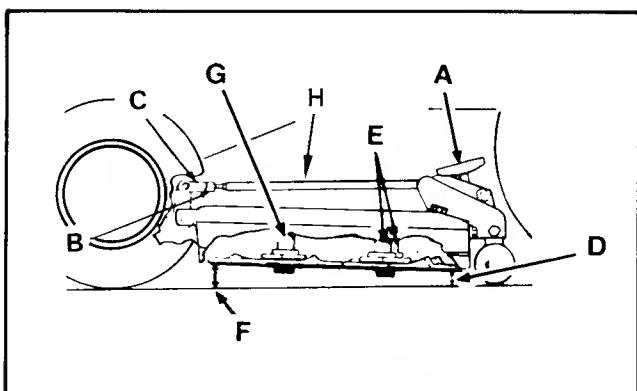

FIGURE 38 - Level Mower
2. Turn both mower height adjustment handles (A, Figure 38) fully clockwise to the highest cutting height position.
3. Rotate the mower blades so the tips point straight forward and backward as shown in Figure 38.
4. Measure and note the distance (F) from the front tip of the center blade to the ground.
5. Measure the distance (D) from the rear tips of the two side blades to the ground. This distance should be the same for the R.H. and L.H. side blades and should be  $1/8"$  to  $1/4"$  (3 to 6 mm) less than the front distance (F) measured in step 4.
**NOTE:** If the (F) and (D) distances measured meet both of these requirements, the mower is level and needs no adjustment. If the measurements are incorrect, the mower bail assembly eyebolts (42" mower) or yokes (48" mower) must be adjusted according to step 6. Both eyebolts or yokes must be adjusted to level the mower front to back. If only slight side-to-side leveling of the two side blades is required the eyebolt or yoke of only one side need be adjusted.
- a. Loosen the jam nuts (B, Figure 38).
- b. If the rear distance (D) dimensions measured are different for the R.H. and L.H. side blades remove the cotter pin and disconnect the eye-
bolt or yoke from the mower hitch for only one bail assembly arm (H, Figure 38). Adjust this eyebolt or yoke in or out on the bail assembly arm until distance (D) is the same on the R.H. and L.H. side when this eyebolt or yoke is again connected to the mower hitch, and blocks added to step 6 are removed.
- c. Recheck the (F) distance. If the (D) distance is not in the range of  $1/8"$  to  $1/4"$  (3 to 6 mm) less than the (F) distance remove the cotter pin and disconnect the eyebolt or yoke from the other bail assembly arm. Then turn both eyebolts or yokes to change the length of both bail arm assemblies equally. Shorten the bail assembly arms to decrease the front height of the mower. Lengthen to raise the front height. Be sure to give both eyebolts or yokes and equal number of turns for front to back leveling.
- e. Reinstall the eyebolts or yokes on the hitch and reinstall the cotter pins. Spread the cotter pins around the hitch pins. Then retighten the jam nuts. (B).